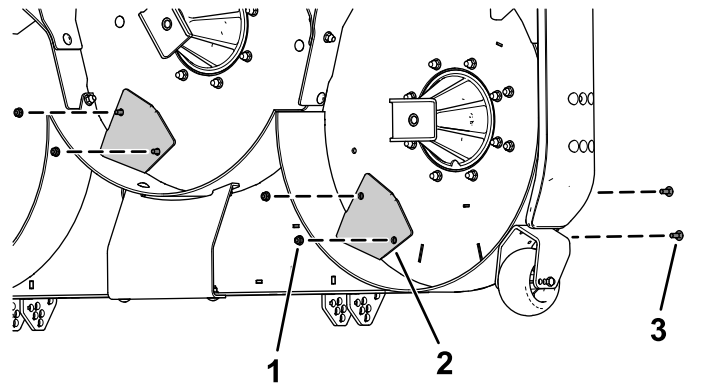

Figure 6
2. Secure the 2 kickers to the mower deck using 4 carriage bolts (5/16 x 7/8 inch) and 4 flange nuts (5/16 inch) as shown in Figure 6.